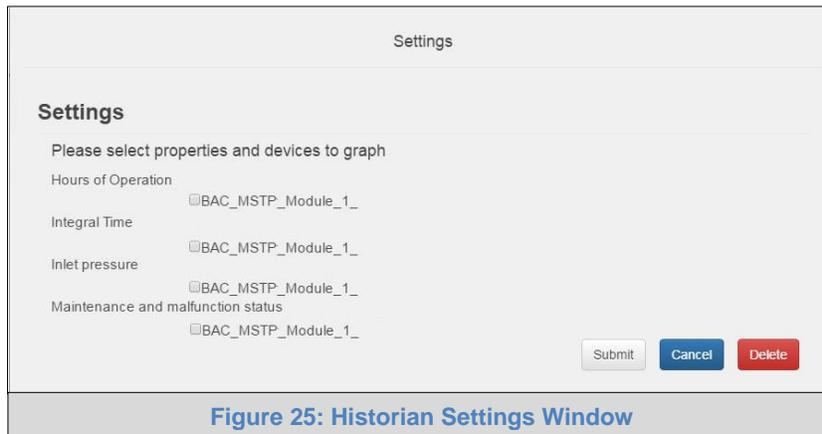

Figure 25: Historian Settings Window
- To delete a log and its resulting graph, check the boxes next to the properties to remove (Figure 25) and click the delete button. Once the confirmation window appears, click “Yes” to confirm.